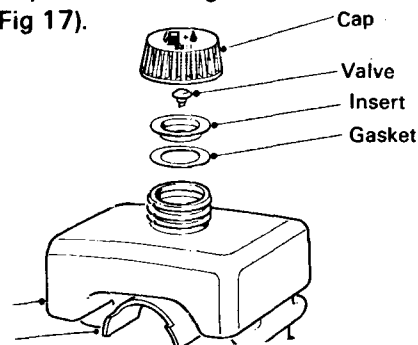

Figure 17
2. The cap can be disassembled by prying up the insert with a flat screwdriver. Care should be used to prevent damage to the insert and the valve (Fig 17).